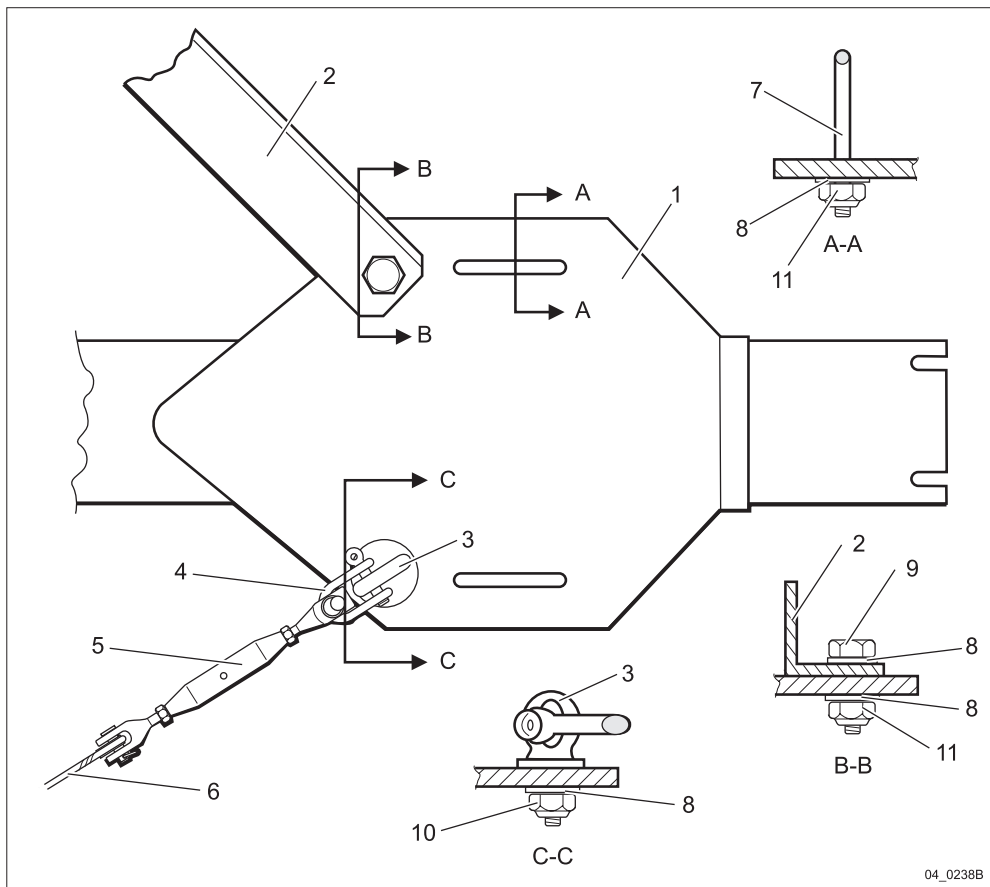

Figure 4
13. Mount a diagonal strut, (pos 2) in figure 4, to each side of the platform.
14. Mount the diagonal struts (pos 2) with the angle of the profile turned outwards from the platform. The struts are mounted with a screwed joint. The struts are mounted at a 45 degree angle to the platform.
- eye bolts (pos 3)
- shackles (pos 4)
- turnbuckles (pos 5)
- guy wires (pos 6)
- clamps for the antenna tubes (pos 7)